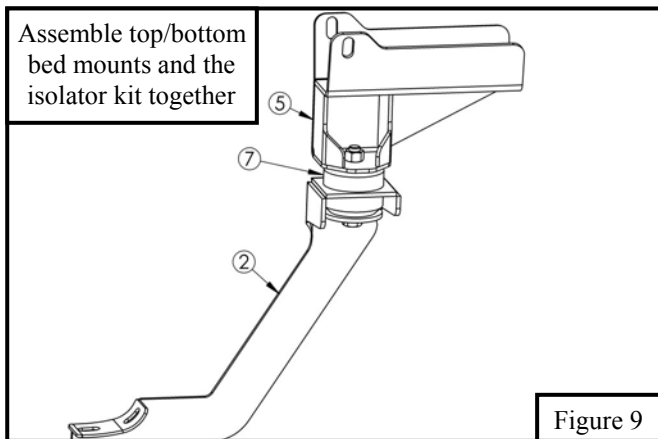

Figure 9
- Locate (1) step bar assembly and loosely secure it to the previously installed brackets. Loosely install onto brackets using (6) M10 button head bolts, (6) M10 flat washers and (6) M10 internal toothed lock washers.
- Locate (1) bed mount bottom bracket, (1) bed mount top bracket and (1) isolator kit and assemble together. **See Figure 9.**